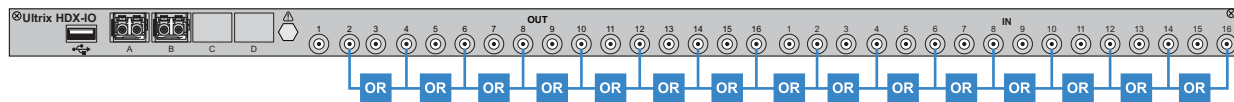

Figure 56 Example of UltraProc 3Gbps Mapping on a Single ULTRIX-HDX-IO Blade
**Figure 56** illustrates the connections allocated for UltraProc on the ULTRIX-HDX-IO blade for data rates up to 3Gbps.